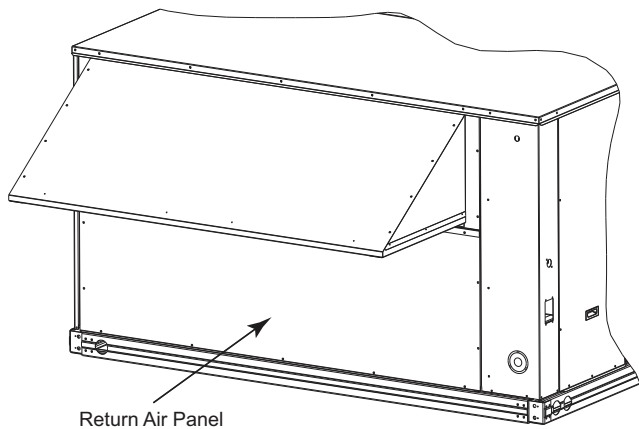

Fig. 9 — Unit Return Air Panel Removal for Vertical Return Air Applications
1. Remove existing return air panel on unit, located below the economizer hood as shown in Fig. 9. Discard the panel and screws.